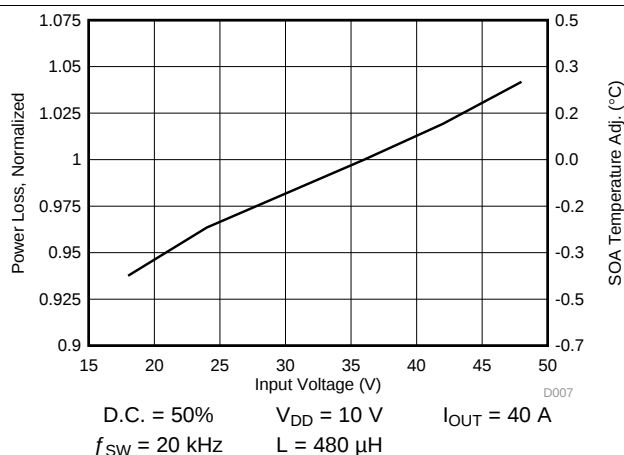

Figure 5. Normalized Power Loss vs Input Voltage
- Normalized power loss for input voltage $\approx$ 1.03 (Figure 5)
- SOA adjustment for input voltage $\approx$ 0.1°C (Figure 5)